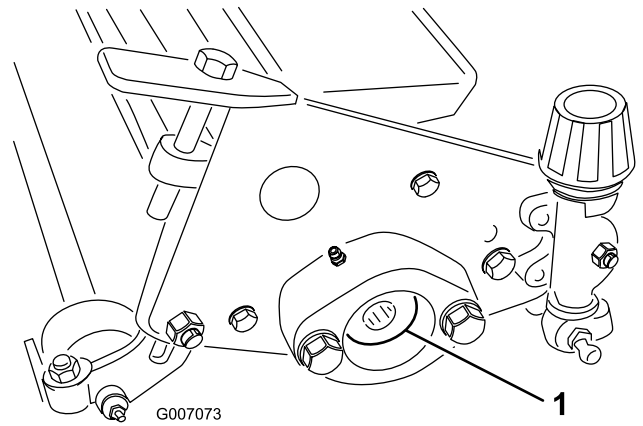

Figure 12
1. Loosen (2) screws and washers securing counterweight to end of dethatcher unit. Remove counterweight.
2. Loosen (2) screws securing reel motor to other end of dethatcher unit. Remove reel motor.
3. Remove (2) capscrews and lockwashers securing the reel bearing housings to each end of dethatcher unit (Figure 12).